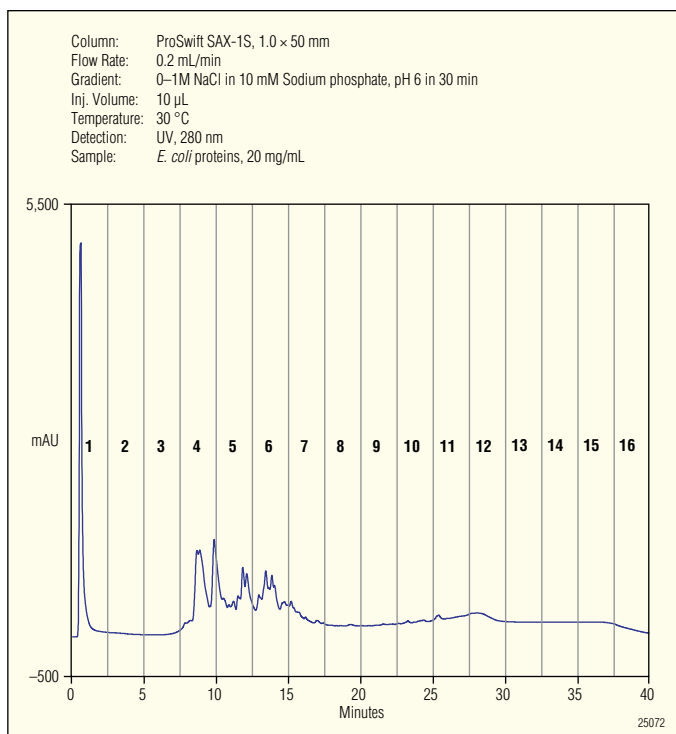
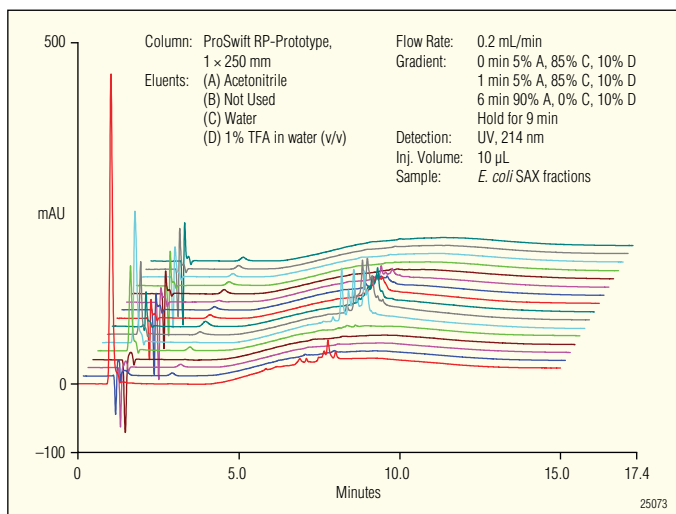
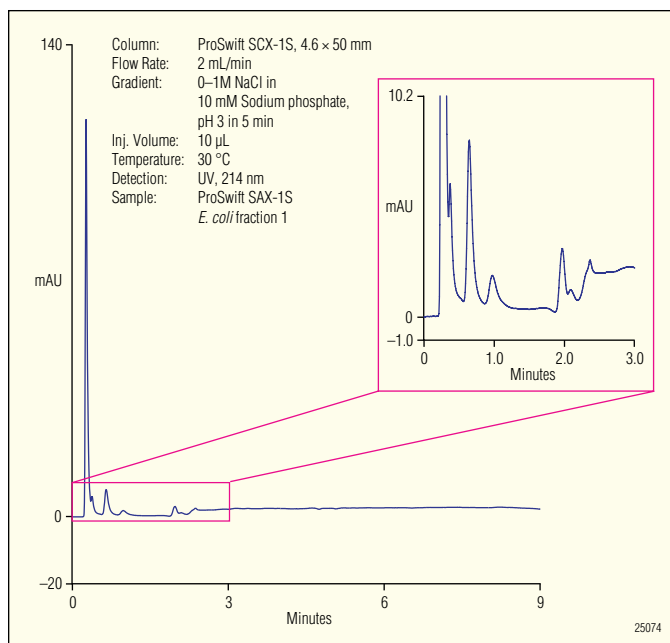

Figure 10. High mass loading of *E. coli* on ProSwift SAX-1S, 1 × 50 mm.
Figure 11. Reversed-phase analysis of SAX protein fractions.
Figure 12. Fraction 1 by Strong Cation Exchange. Fraction 1 contains proteins with a $pI < 6$.
E. coli proteins (200 µg) were loaded onto a 1-mm ProSwift SAX-1S column and fractions were collected at 2 minute intervals (Figure 10). Each fraction was then separated using a prototype 1-mm monolithic RP column (Figure 11). This column is housed in inert housing, ensuring stability at high pH to enable sterilization often required for bioapplications. Fraction 1 was then separated by cation exchange at low pH (Figure 12).